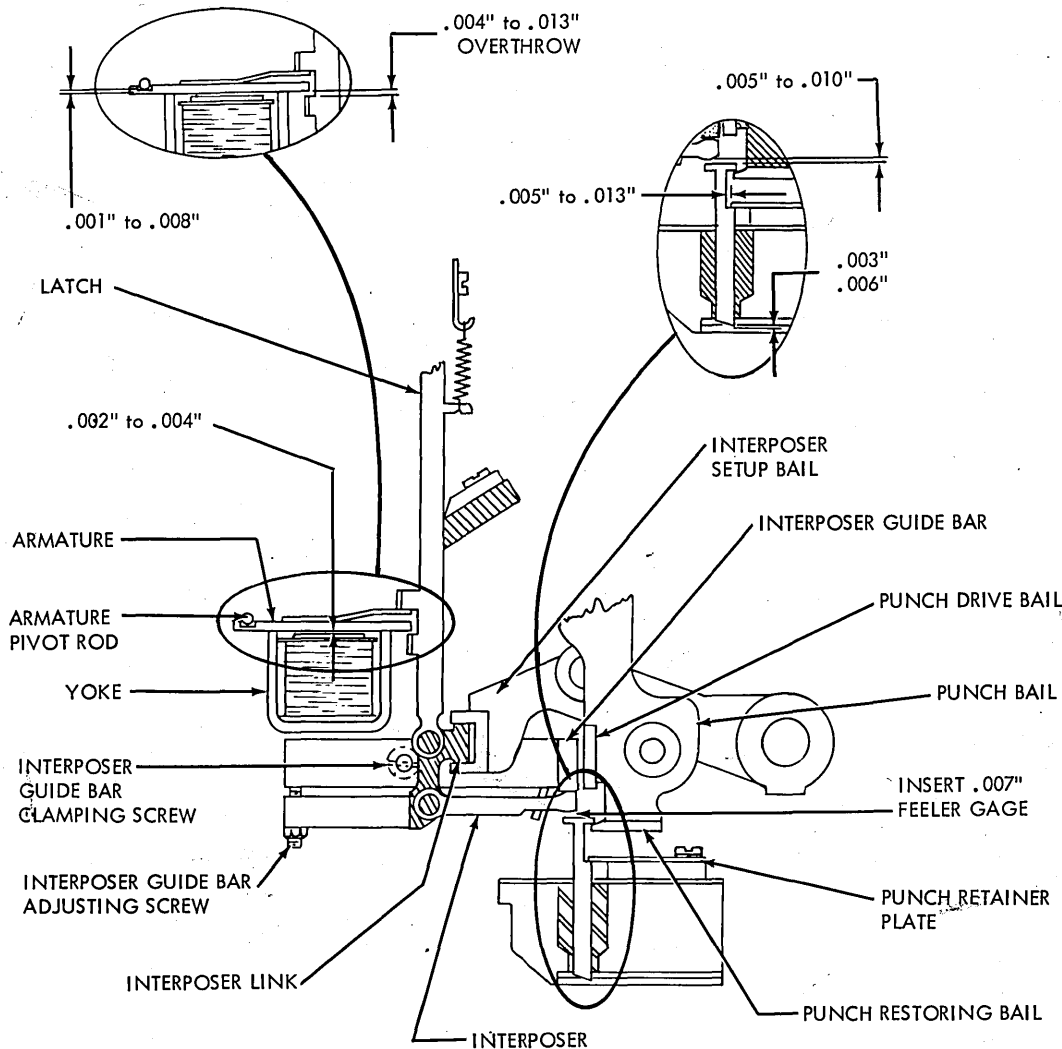

Figure 4-15. Punch Unit Adjustments
The interposer setup bail is a U-shaped channel. A projection on each of the 80 interposer links rides in the channel (Figure 4-15). As the interposer setup bail moves down, all the interposer links move down, carrying with them the 80 latches. This pulls each armature against its yoke. If punching is to take place, the magnet is energized at this time. Because the armature did not have to be attracted electrically, very low current is required to keep the armature sealed against its yoke. For this reason, the unit is sometimes referred to as a "no-work" punch unit.
Magnet Bar Assembly Adjustment (Figure 4-15)
3. Check for .004" to .013" clearance between the lower side of the armature and the latch at both the column 1 and column 80 ends of the unit (Figure 4-15).
- b. Loosen magnet unit adjusting lock nuts and adjust screws for .004" to .013" clearance between armature and latch (Figure 4-15). The magnet unit locating screws hold the magnet unit against the adjusting screws.
3. Carefully place drive unit on magnet unit so that all 80 interposer links fit into the interposer setup bail (Figure 4-15).
- a. Check for .004" to .013" latch overthrow (Figure 4-15).
- b. Check for .005" to .010" interposer to punch clearance (Figure 4-15).
- a. With the punch magnet de-energized, insert a .007" feeler gage between punch and interposer (Figure 4-15).
- a. Loosen interposer guide bar clamping screws slightly (Figure 4-15).
3. Remove latch spring in position to be removed (Figure 4-15).
3. Adjust retainer plate for .005" to .013" clearance between plate and punches (Figure 4-15).